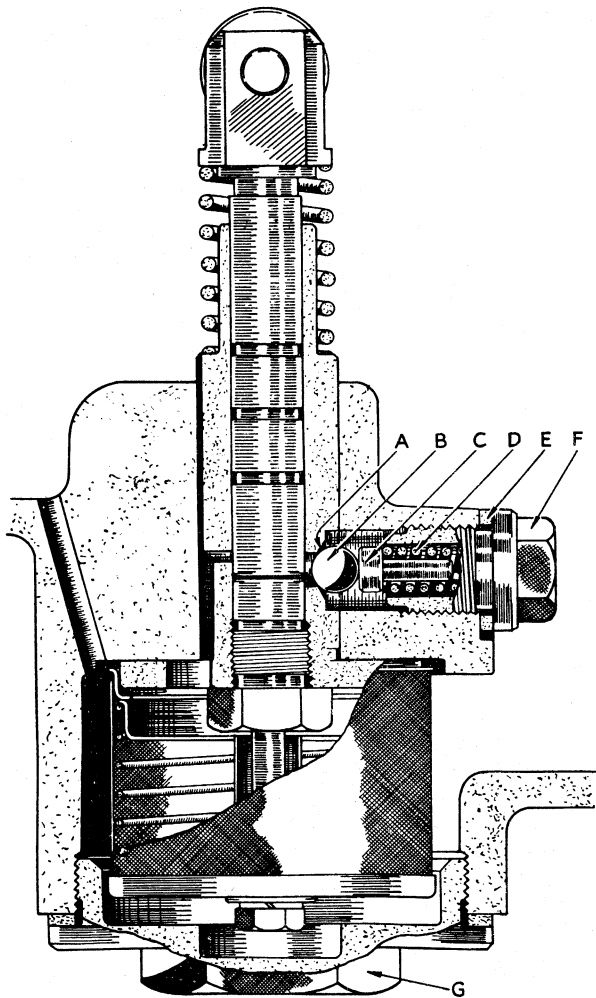

Fig. 6 The Oil Pump.
- (a) Remove the drain plug (G) and drain off oil (Fig. 6).
- (g) The pump valve plug (F) can now be unscrewed with a box spanner, and the spring (D), plunger (C) and ball (B) removed (Fig. 6).
- (h) Clean the valve seat (A) and reseal the ball if necessary by gently tapping it on to its seat with a copper drift.
Re-assembly is the reverse of the above operations, but ensure that the valve plug is well tightened on to the soft copper washer (E) (Fig. 6) which should be replaced by a new one if damaged in any way.